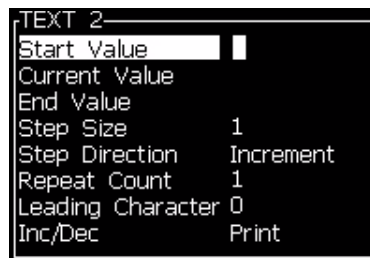

Figure 5-38: New Counter Dialog Box
- 4 Press the *Enter* key to open the counter dialog box for counters (see Figure 5-38).
- 5 Set the values for all the fields in the *Counter Configuration* dialog box (see Figure 5-38).